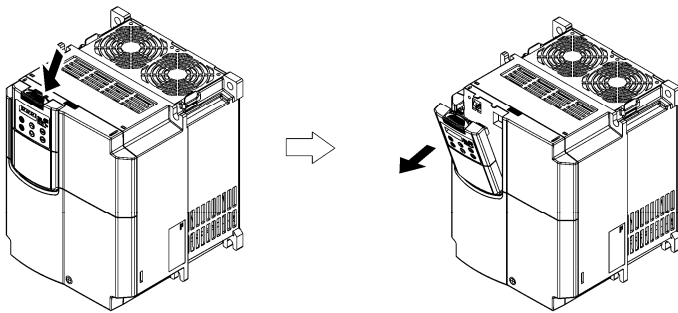

Figure 2.32 Removing a Keypad
- ① Pull the keypad toward you while holding down the hook (pointed to by the arrow in Figure 2.32)